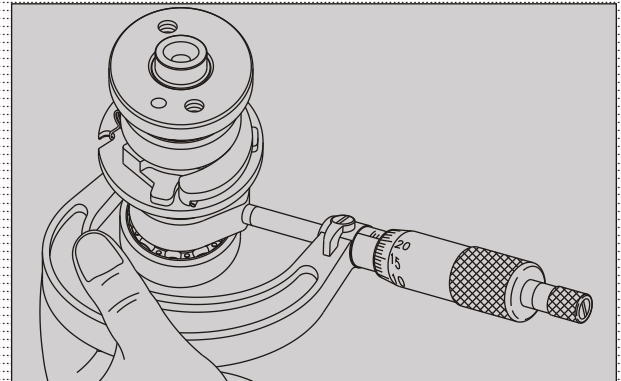

Fig. 3.139
- Measure cam lobe height. If the lobe height is less than specified service limit then, replace the camshaft complete with a new one. (Fig. 3.139)